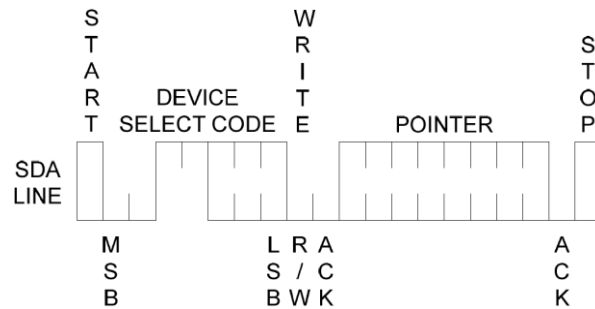

Figure 15. Write to Pointer Register
1. Write to this device will always include the Device Select Code byte and the Pointer byte. The pointer register latches the data for reading operation (see Figure 15).